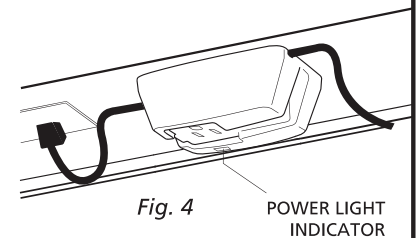

Fig. 4
7. The power light indicator (next to the receptacle on the control box) will only be lit, when the roof de-icing cable is energized. Fig. 4